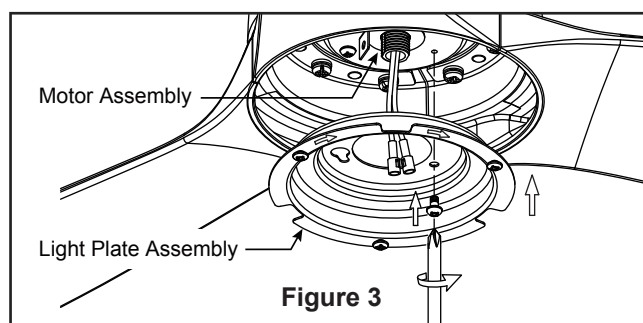

Figure 3
3. Assemble the light plate assembly to the support bracket using the two key slots in the light plate assembly. Replace the previously removed screw and securely tighten all three screws. (Figure 3)
- ☐ 3. Remove the battery cover from remote control by screwdriver and retain the screw for later. (Figure 3)